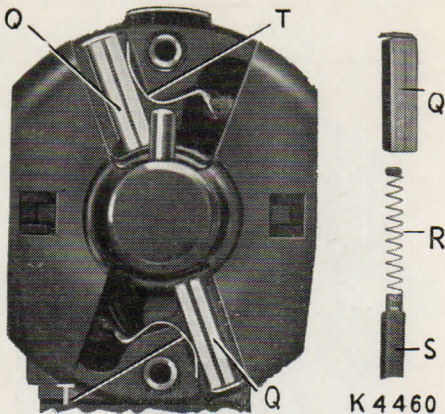

Fig. 11.
Unless the machine is worked continuously, the brushes, which are of the best grade procurable, should last for several years, but it is well to examine them every twelve months to make sure that they are not wearing excessively. Before replacing the brush tubes (Q) take care that the brushes (S) are in the position they occupied before removal, with the concave end in the position shown in Fig. 11. When inserting the brush tubes make sure that they are in contact with the spring (T).